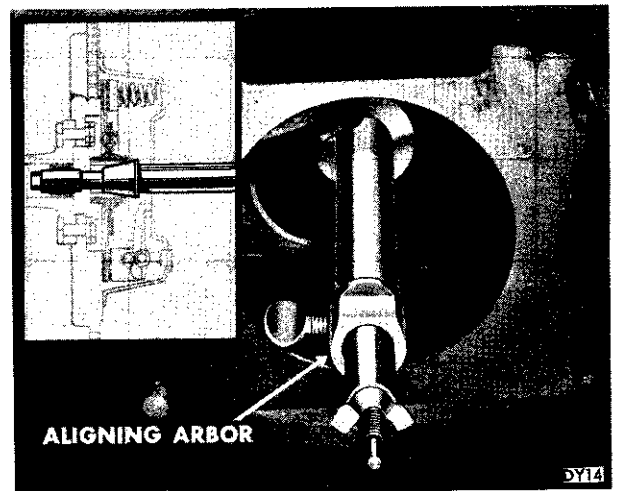

Fig. 6—Clutch Disc Aligning Arbor
(1) Lubricate transmission drive pinion pilot bushing in end of crankshaft with about one-half teaspoon of grease. Place lubricant in radius back of bushing.
(2) Clean the surfaces of flywheel and pressure plate thoroughly with fine sandpaper or crocus cloth, and make certain that all oil or grease has been removed.
(3) Hold clutch disc, pressure plate and cover in mounting position, with springs on disc damper facing away from flywheel. **Do not touch disc facing, as contamination may result in clutch chatter.** Insert a Clutch Disc Aligning Arbor through hub of disc and into bushing (Fig. 6). If an Arbor is not available,